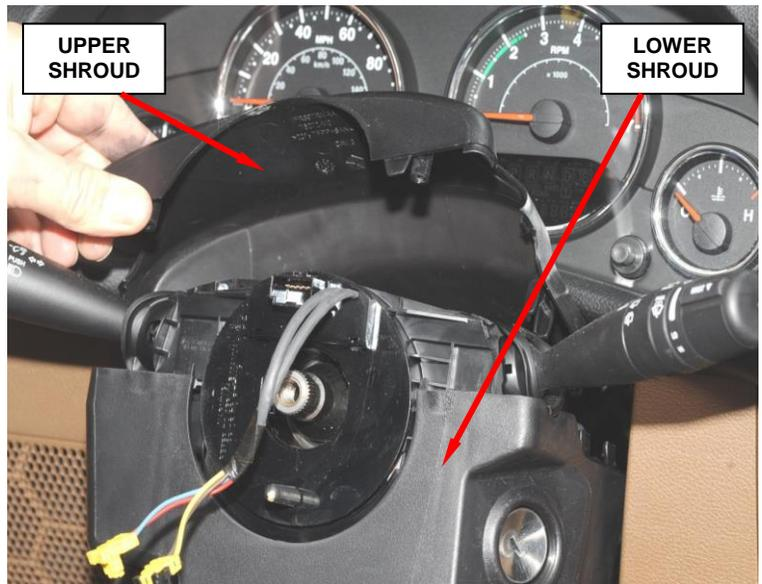

Figure 3 – Upper and Lower Steering Column Shrouds
8. Remove and discard the upper and lower steering column shrouds from the steering column (Figure 3).